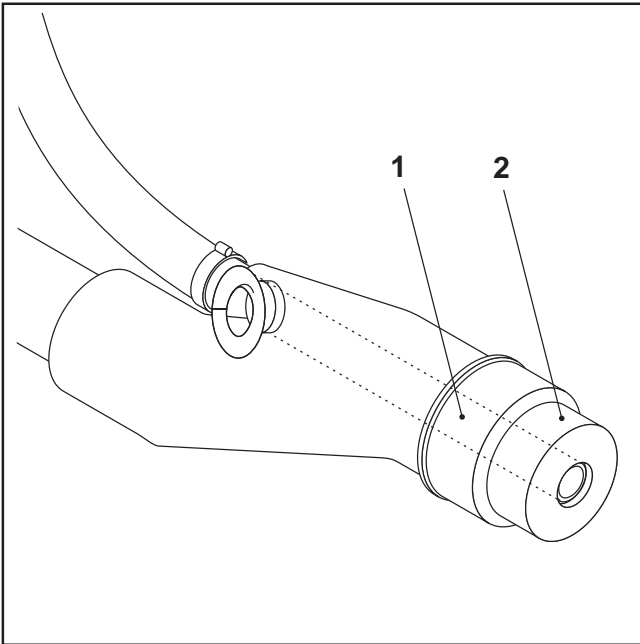

FIG.26
- Stop the material pump (FIG.26-REF.3).
- Remove the gun and wash it carefully, disassembling the deflector (FIG.26-REF.2).
- Check that the hole in the nozzle (FIG.26-REF.1) is free (if necessary, clean it using the relevant cleaning device).